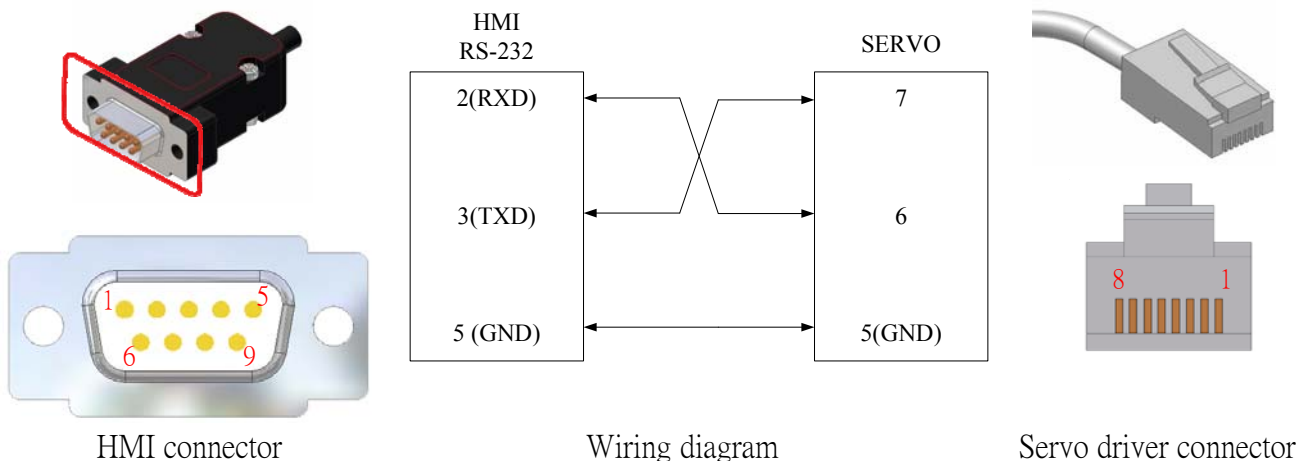

Figure 2-1-63: RS-232 connection
- The Shihlin servo driver shall be connected to RS-232 as shown in figure 2-1-63.